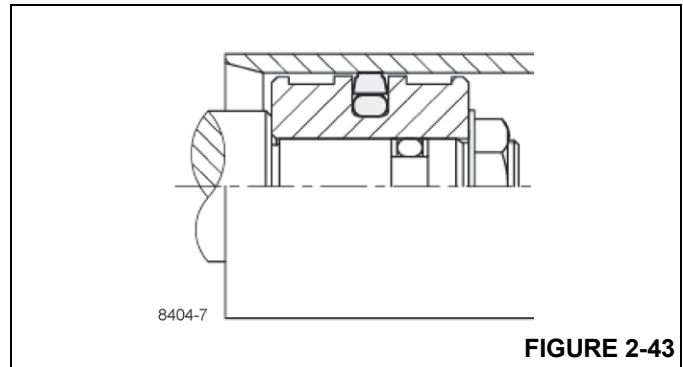

FIGURE 2-43
4. Now calibrate the still warm (approximately 40°C (104°F)) turcon ring using a calibrating shell to reform to its original size (Figure 2-43). Alternatively the calibrating may be carried out by using the cylinder pipe itself, if provided with a suitable taper.